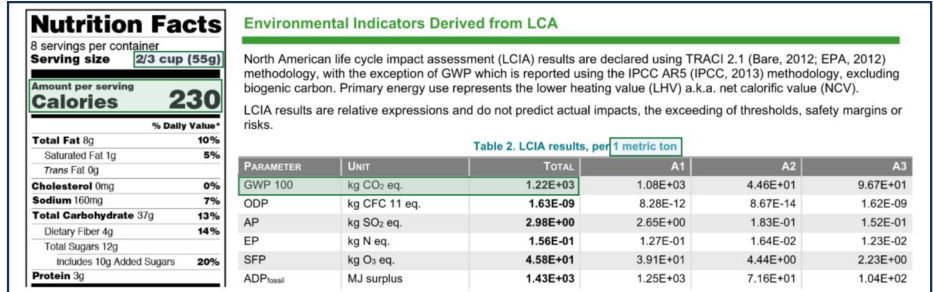

Figure 2: EPD and Nutritional Label Comparison. Courtesy: FDA, AISC
Depletion Potential (ODP) or Acidification Potential (AP) as well as energy consumption and wastes. In simpler terms, the EPD is analogous to a nutrition label, and documents the product's impact to the environment instead of a food to one's body. The material quantity parallels the serving size and the GWP corresponds to calories per serving. The additional impact categories can be thought of as the various macronutrients. [See Figure 2]